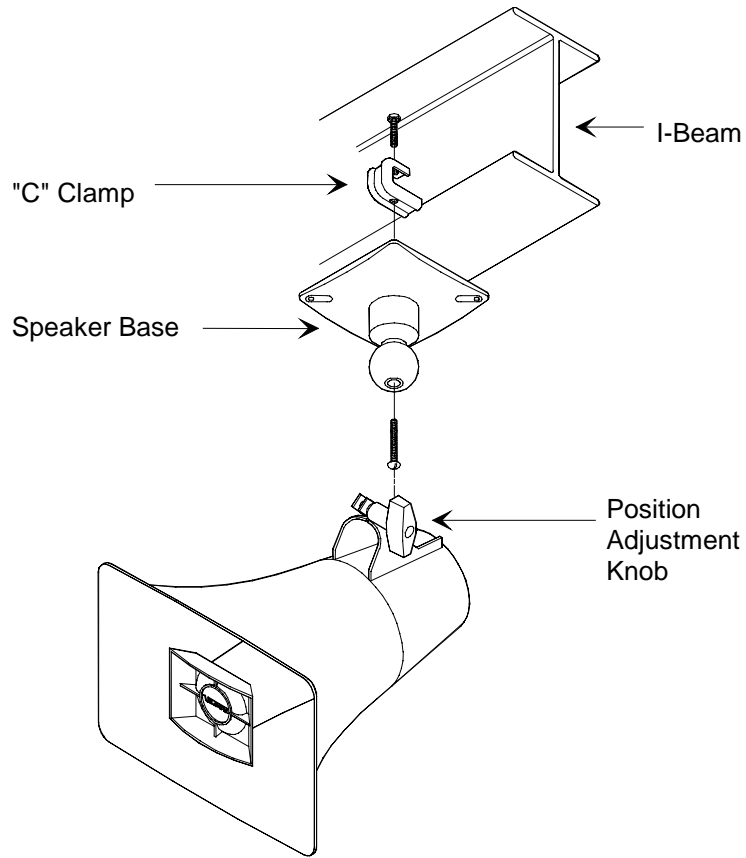

Figure 1 - Mounting to a Beam with a "C" Clamp
- A "C" clamp is provided with the horns to allow mounting to a beam. Place the bolt through the hole in the bottom of the base to secure the "C" clamp to the beam (See Figure 1). It is suggested that the horn be mounted to the underside of the "I" beam to provide maximum positioning adjustments.
The horns may be rotated or moved up and down to obtain the desired position by loosening the knob at the bottom of the unit approximately one turn (See Figures 1 & 2). Make required adjustments and re-tighten knob.